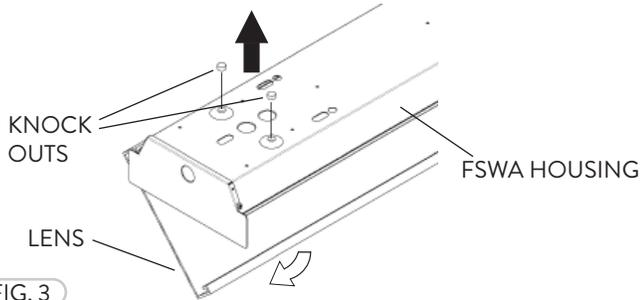

FIG. 3
- 1 The Surface Mount for the FSWA fixture requires mounting hardware: Screws, Washers, and Anchors. Carefully remove the Lens and then remove the Knock-outs (4) from the FSWA Housing for the mounting hardware (Fig. 3).